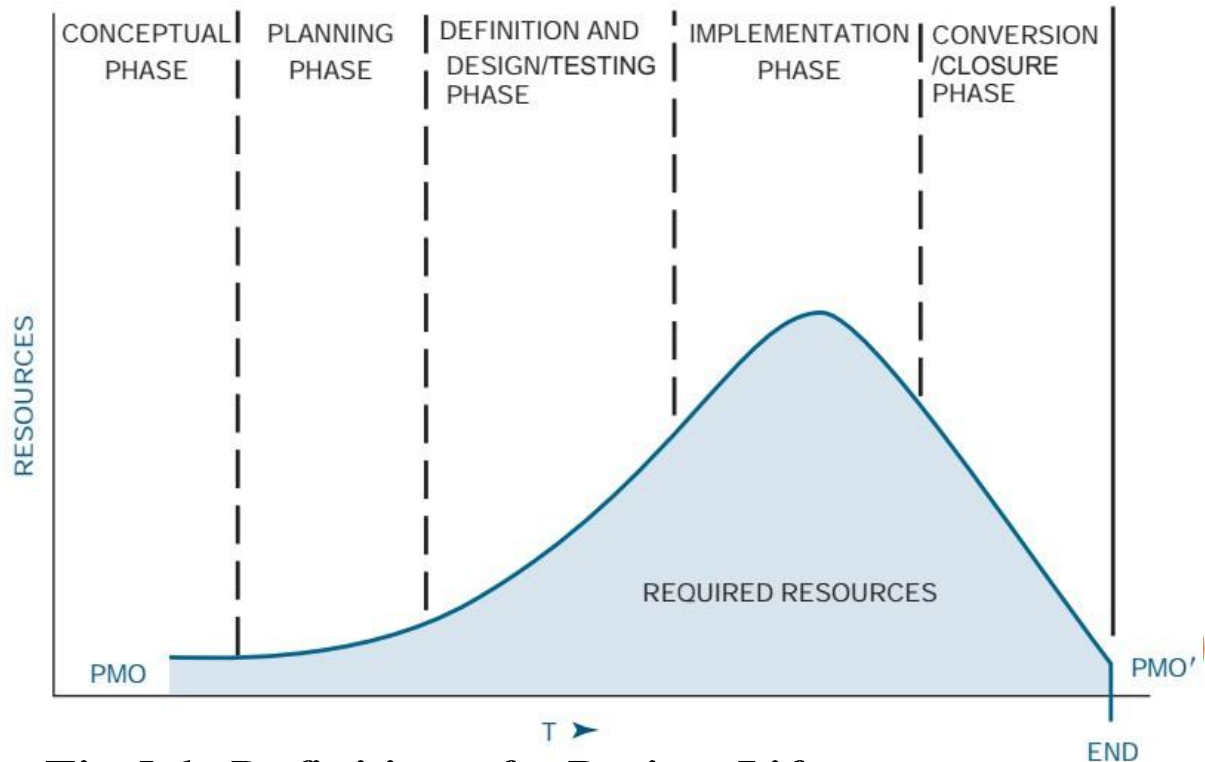

Fig 5.1: Definition of a Project Life
- (1/8) The theoretical definitions of the life cycle phases of a system can be applied to a project, as shown in Fig 5.1. These phases include: